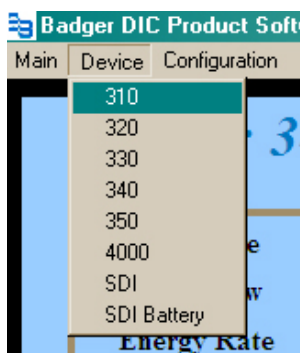

Figure 9: Select 310
1. As shown in Figure 9, connect the loop power supply positive (+) to the Model 310 terminal marked **4-20mA loop (+)**.